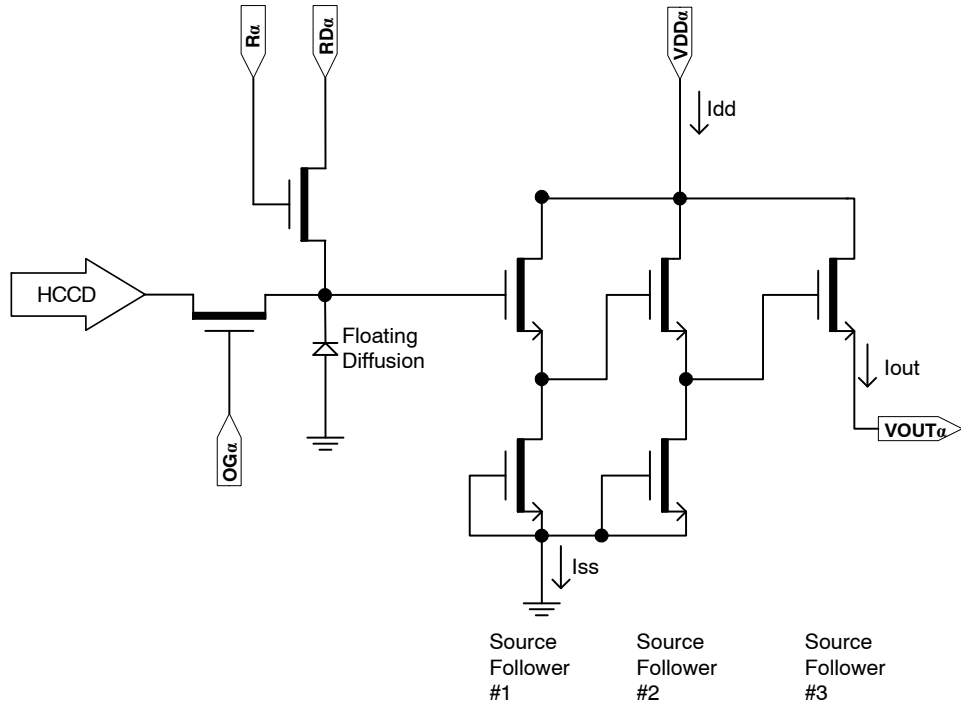

Figure 18. Output Amplifier
2. The maximum DC current is for one output. Idd = Iout + Iss. See Figure 18.